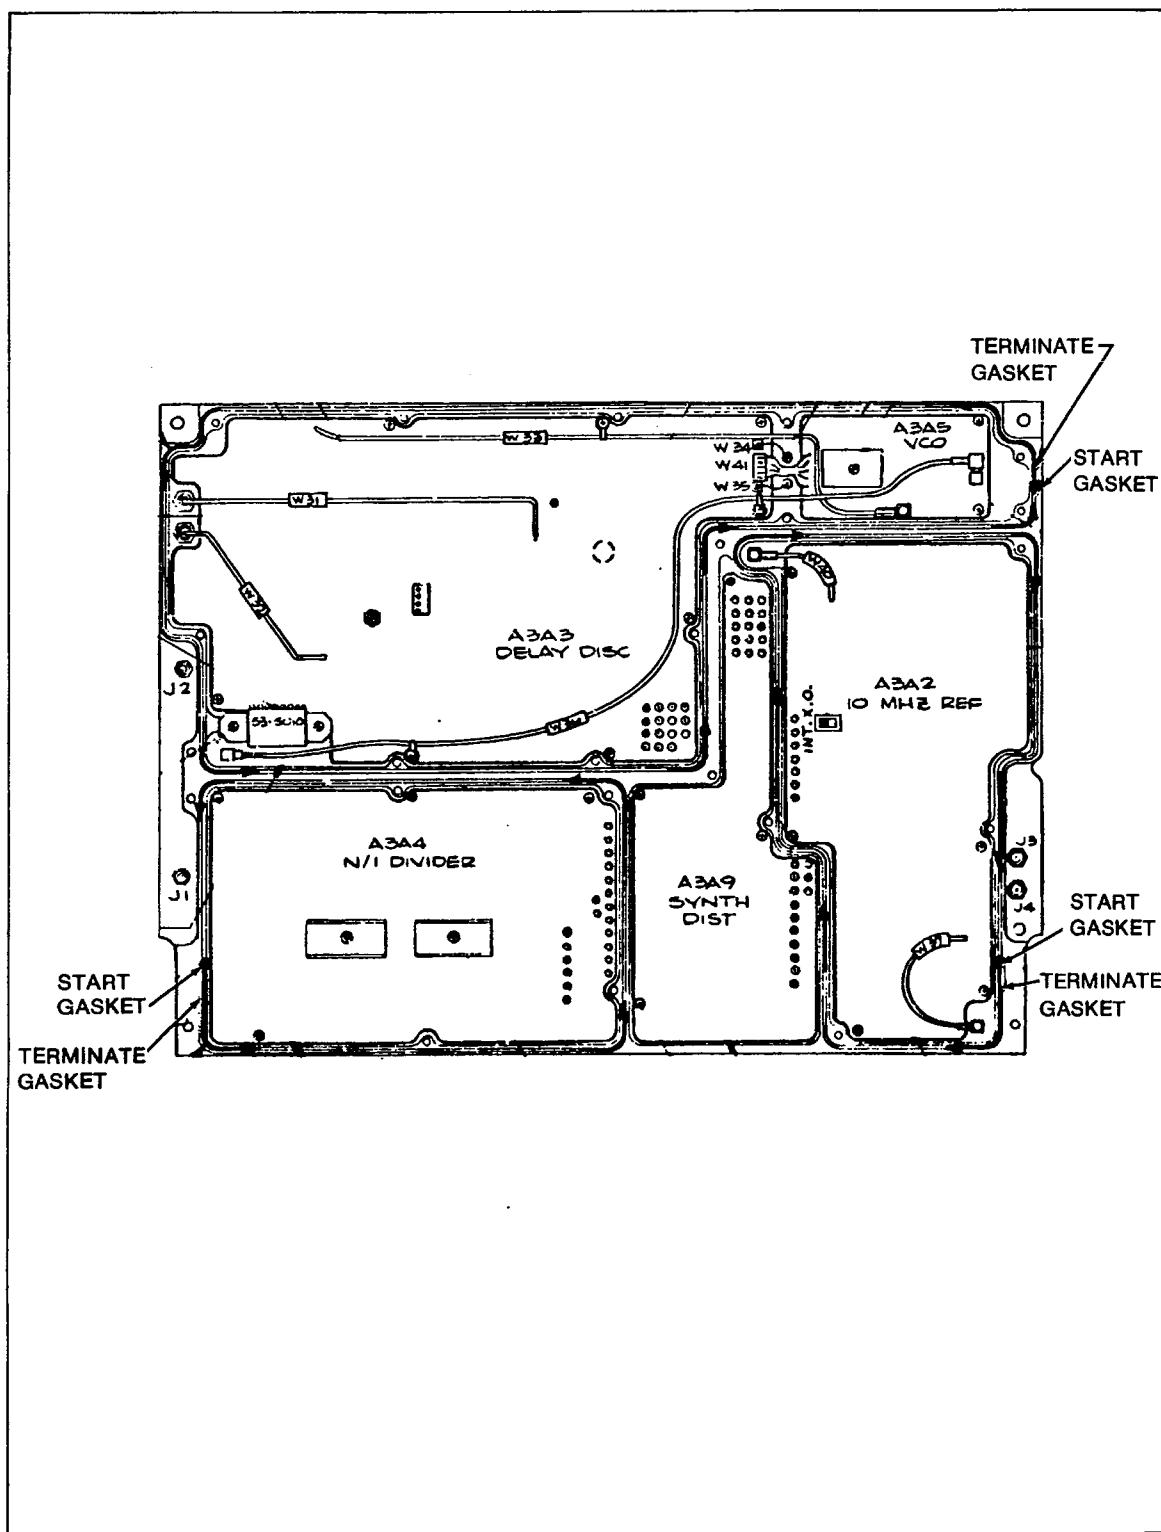
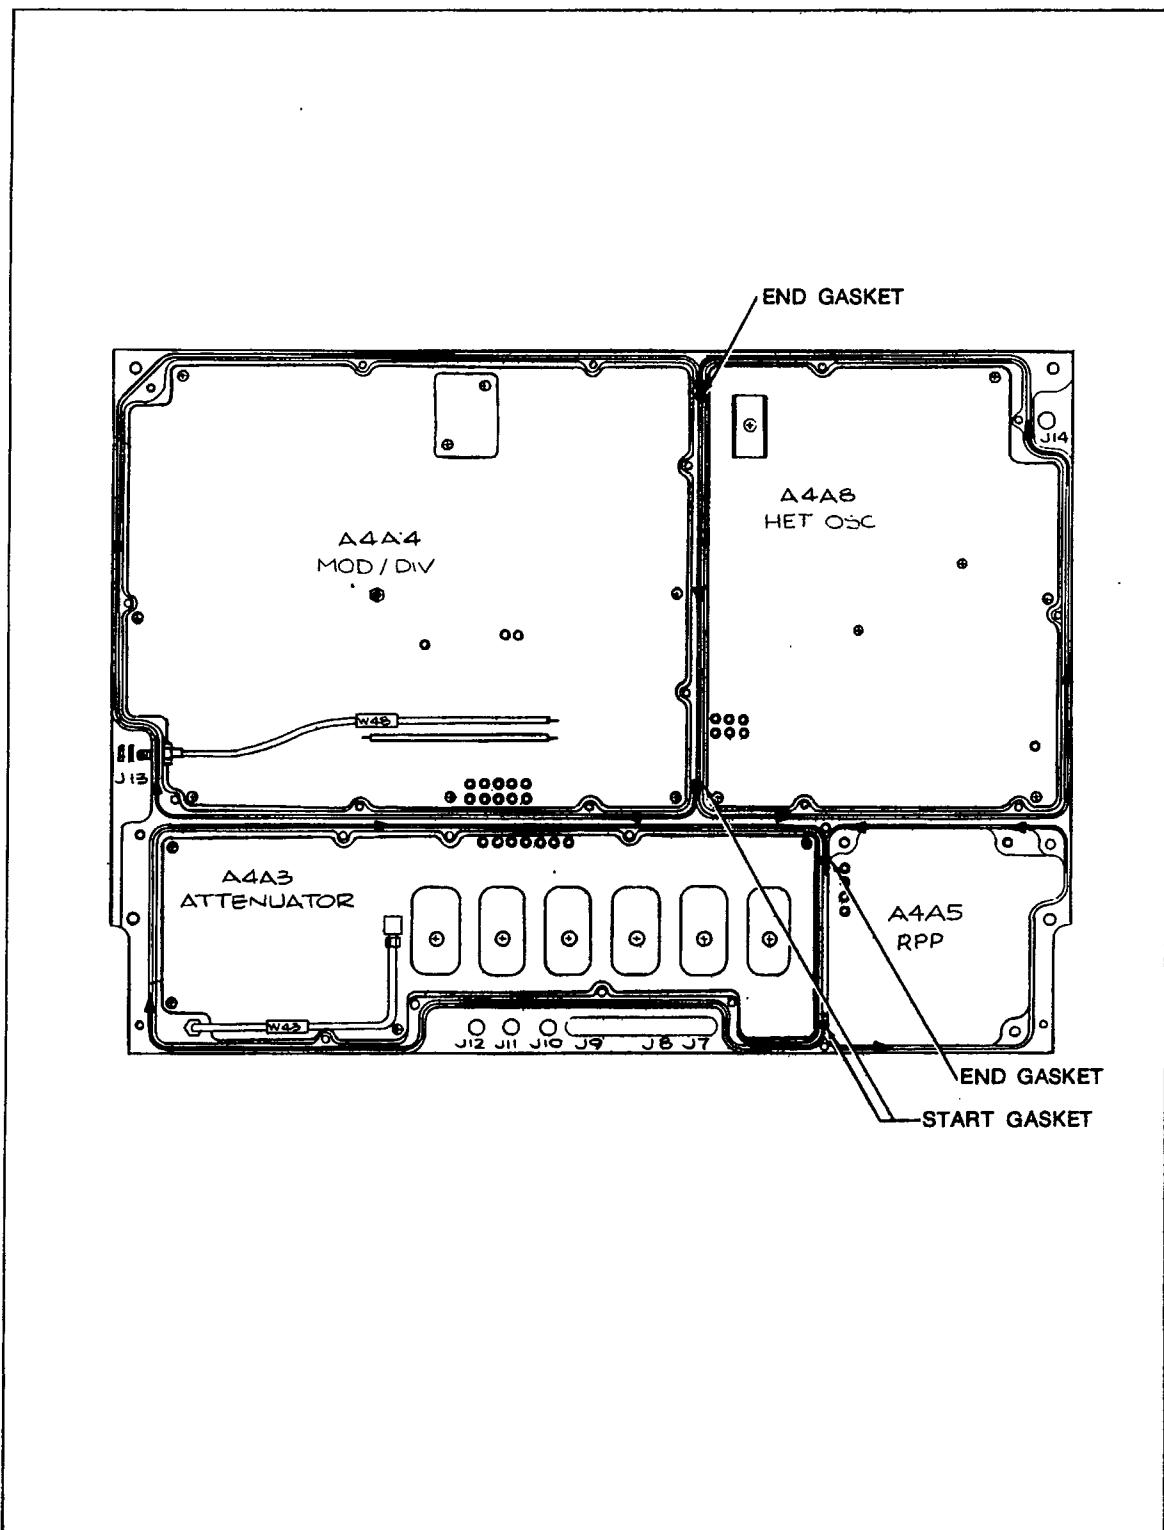

Figure 3-2. Top Synthesizer Module
Figure 3-4. Top of Output Module
3-4. The locations of the major assemblies of the 6070A/6071A are illustrated in Figure 3-1. The synchronizer module and the output module swing out from the center cable assembly. Circuit boards are located on each side of the synchronizer module and output module. Figures 3-2 and 3-3 illustrate the circuit board locations for the synchronizer module, and Figures 3-4 and 3-5 illustrate the circuit board locations for the output module. The 6070A and 6071A can be energized for maintenance purposes when opened up as shown in Figure 3-1.
1. Make sure that the RF gasket is in place. The gasket should start and end as shown in Figure 3-2. Inspect the RF gaskets for damage (areas that are folded over, worn, or pinched).
- a. Start the RF gasket at screw number 13 (Figures 3-2 and 3-6).
1. Make sure the RF gaskets are in place. The gaskets must start and end as shown in Figure 3-2. Inspect the RF gaskets for damage (areas that are folded over, worn, or pinched).
2. If the RF gaskets fall out, replace them as shown in Figure 3-2.
- c. The end of the gasket must continue past (overlap) the beginning of the gasket as shown in Figure 3-2.